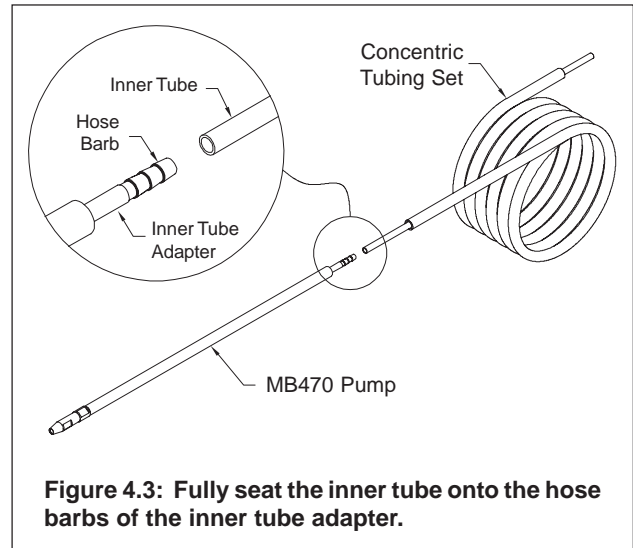

Figure 4.3: Fully seat the inner tube onto the hose barbs of the inner tube adapter.
1. Push the inner tube of the concentric tubing set onto the hose barb on the end of the inner tube adapter (Fig. 4.3). Fully seat the tube on the adapter such that the tube engages all three barbs. Take care not to kink or otherwise damage the tubing.